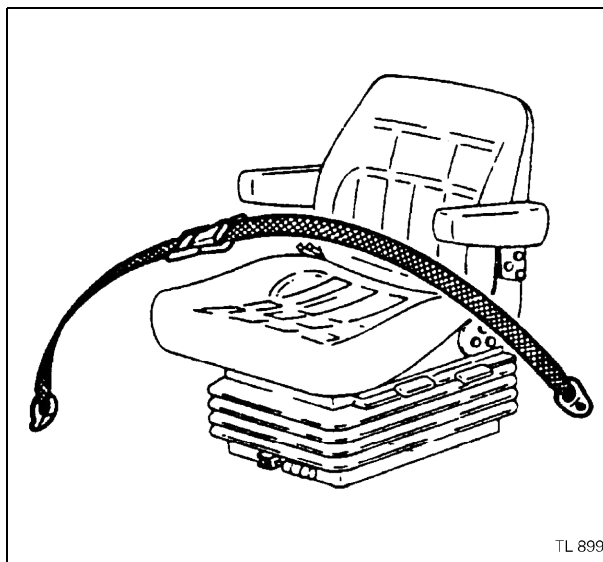

Fig. 4
- Check the seat belt for damage. A damaged seat belt must be replaced (Fig. 4).
- Check ROPS and seat belt for damage. A damaged ROPS or seat belt (*see Fig. 4*) **MUST** be replaced.